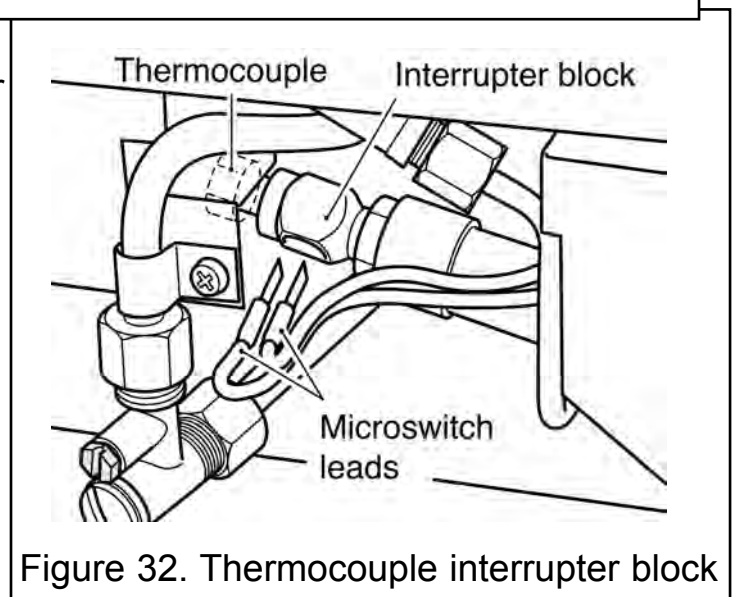

Figure 32. Thermocouple interrupter block
2. Loosen the thermocouple nut to free the microswitch leads and pull the leads clear of the thermocouple interrupter block (See figure 32).